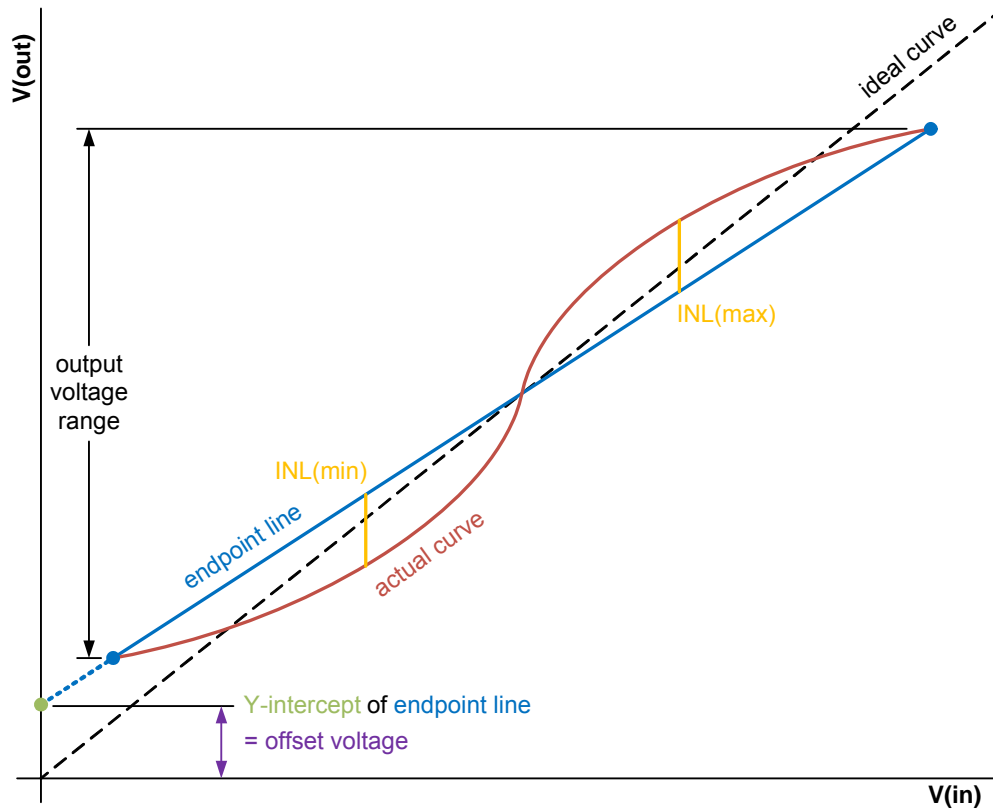

Figure 19-1 Multiplexer offset and gain errors
c. Multiplexer offset error, gain error, and INL are measured as illustrated in Figure 19-1. Supporting comments: